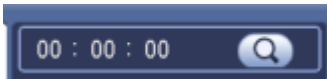

Figure 4-36
Click search button in the main menu, search interface is shown as below. See Figure 4-36.
**Please make sure your purchased device support this function. You can use this function only if you can see the mark playback icon on the Search interface (Figure 4-36).**
During 1-window playback mode, click mark file list button  in Figure 4-36, you can go to mark file list interface. Double click one mark file, you can begin playback from the mark time.
Click the mark manager button  on the Search interface (Figure 4-36); you can go to Mark Manager interface. See Figure 4-40. System can manage all the record mark information of current channel by default. You can view all mark information of current channel by time.
From main menu->Search or you can right click mouse on the preview interface and then select Search, you can go to Figure 4-36.
On the main menu, click Search button, or right click mouse and then select Search. You can go to the Figure 4-36.